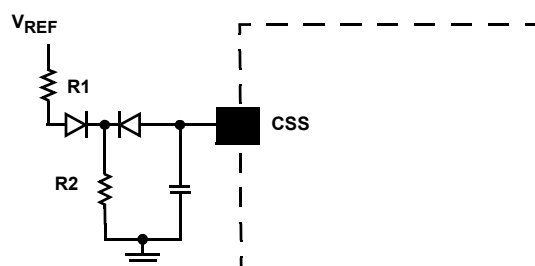

FIGURE 5. REFERENCE-BASED CLAMP CIRCUIT
- Per Equation 3, the clamping voltage is a function of the charge current I_{SS} . For a more predictable clamping voltage, the CSS pin can be connected to a reference-based clamp circuit as shown in Figure 5. To make the V_{clamp} less dependent on the soft-start current (I_{SS}), the currents flowing through R1 and R2 should be scaled much greater than I_{SS} . The relationship of this circuit can be found in Equation 4.